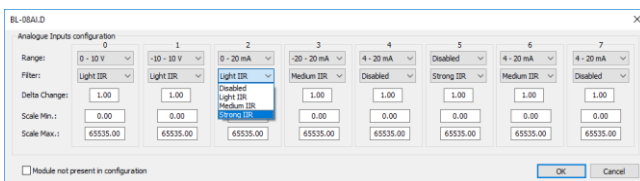

Figure 23
- **Filter:** select filter type for each channel in dropdown menu. See Figure 23